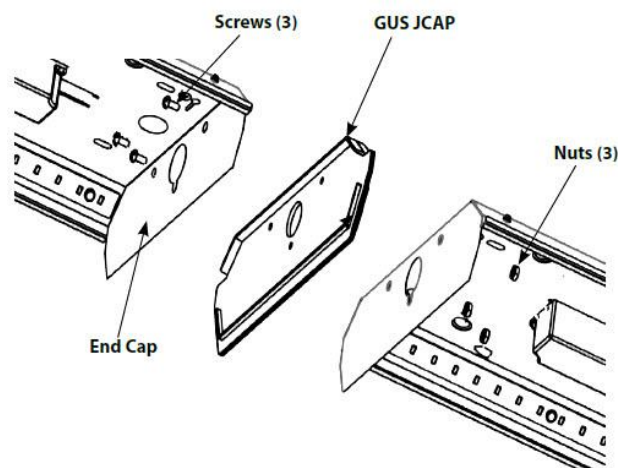

Fig. 5
- b. Secure the Gus JCAP with 3 screws and 3 nuts provided. See **Fig. 5**